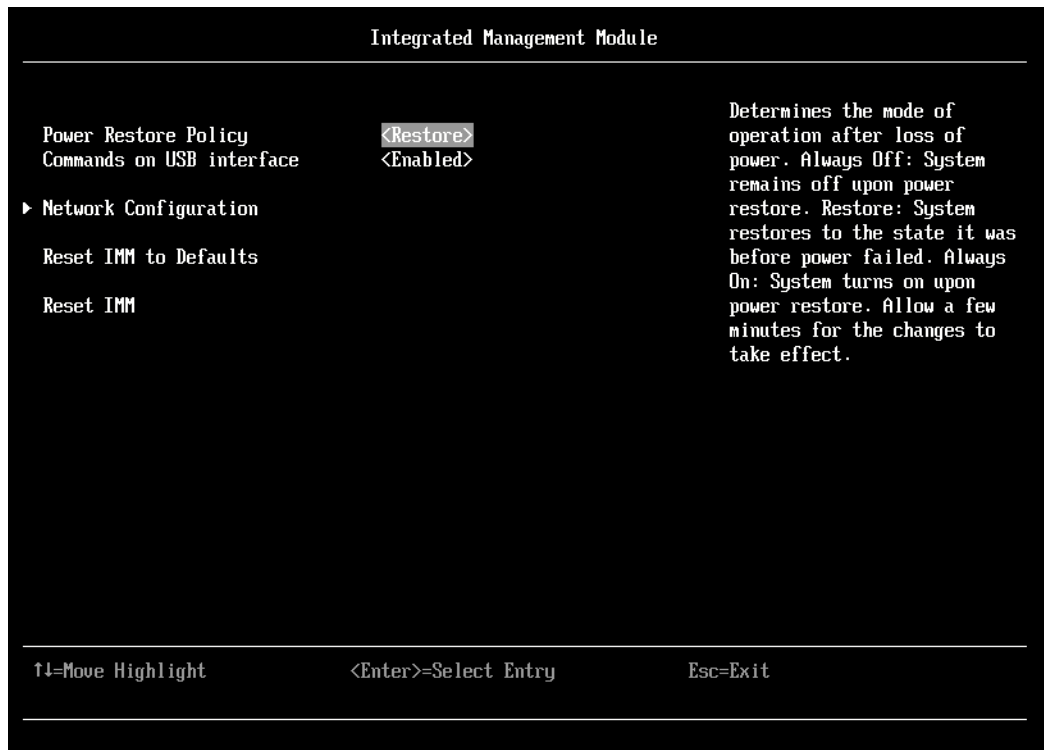

Figure 5-1 Integrated Management Module panel
Part of the information that is stored in the IMM2 can be accessed with F1-Setup by selecting **System Settings** → **Integrated Management Module**. Figure 5-1 shows the first panel of the IMM2 configuration panel.
**Tip:** If you have a server but you do not know the logon credentials, you can reset the credentials by going to the panel that is shown in Figure 5-1. From F1-Setup, you can restore the IMM2 configuration to the factory defaults by selecting **Reset IMM to Defaults**.